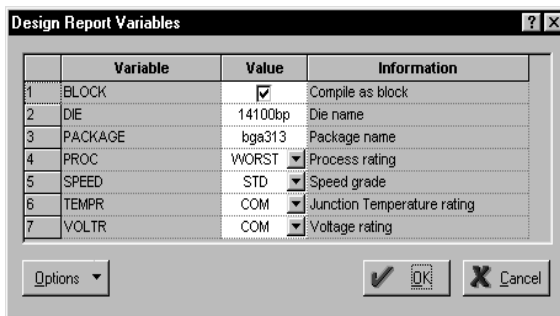

Figure 6-4. Design Report Variables dialog box
9. **Select the Design Report command from the Tools Menu.** This invokes the Design Reports Variables dialog box as shown in Figure 6-4.